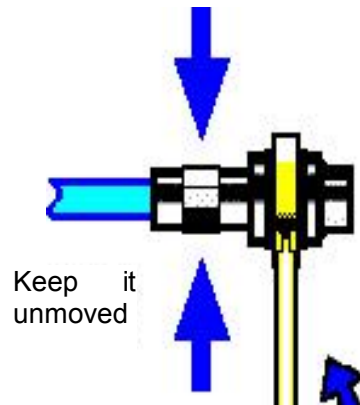

Fig.2.6 Completion of Final Connection with a Torque Wrench
Step 3. As shown in Fig.2.6, use a torque wrench to complete the final connection. It should be noted that the torque wrench should not exceed the starting kick point. An auxiliary wrench can be used to prevent the connectors from rotation.